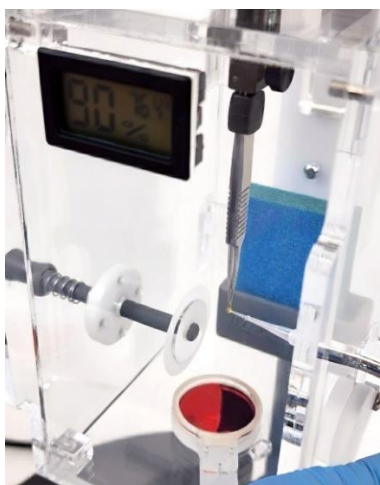

Figure 10: Loading sample onto grid
STEP 8. Load sample into pipette. **Basic model:** Apply sample directly to the foil-side of the grid. **Standard model:** Open the door to the sealable pipette access port and insert the loaded end of the pipette. Apply your sample to the foil-side of the grid (see Figure 10 below). When finished, close the door to the pipette access port.